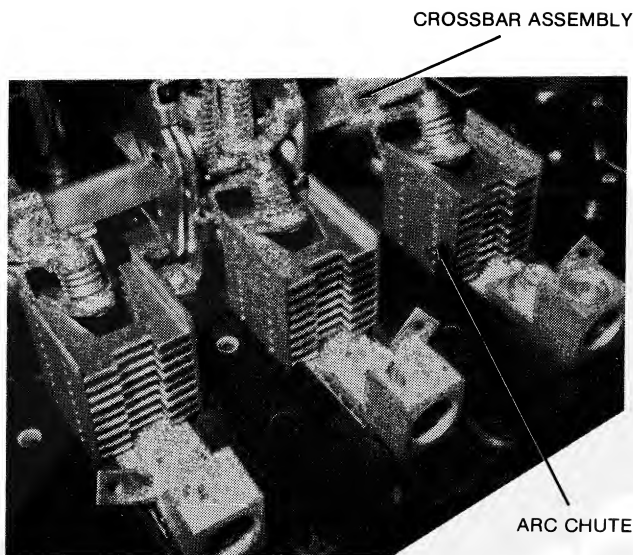

FIGURE 27. ARC CHUTE LOCATION
11. Remove the arc chute for the contact needing replacement. See Figure 27.